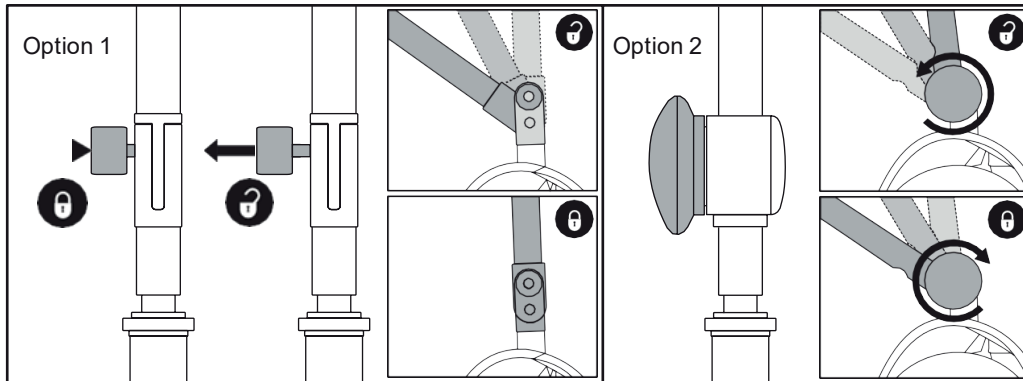

Figure 4. Tiller Adjustment Knobs
1. With the seat and battery pack removed (see Disassembly Procedures on previous page), lower the tiller and tighten the tiller adjustment knob. See figure 4.
3. Raise the tiller and fully secure the tiller adjustment knob. See figure 4.